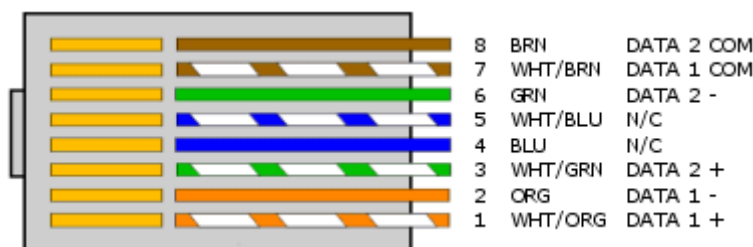

Figure 4.1 RJ45 pinout
- Once run and properly secured, terminate the cables with the appropriate RJ-45 connector assembly. See **Figure 4.1** for RJ-45 pinout.